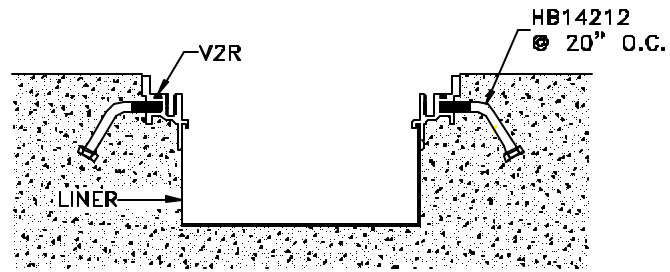

Figure 7
- STEP 11.** After the concrete has cured, remove the temporary wooden cover from the frame and remove the wooden bracing from the liner (see Figure 7). Proceed directly to Step 24.